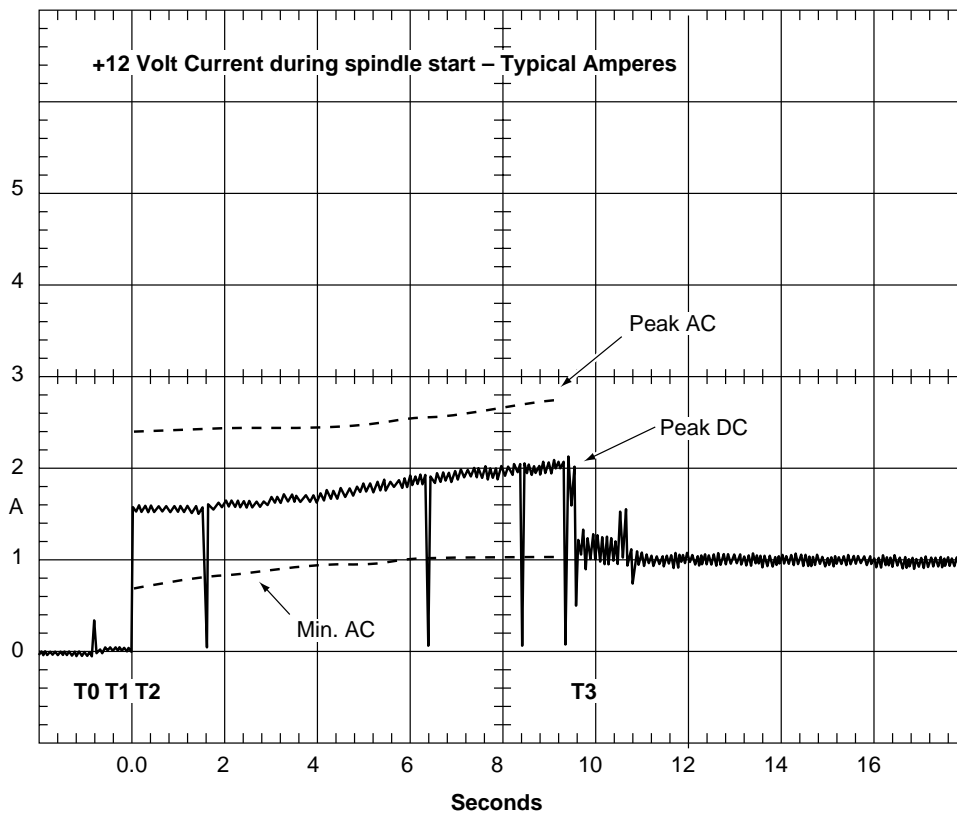

Figure 3. Typical Cheetah 18 family drive +12 V current profile
- [3] See +12 V current profile in Figure 3.
Figure 3 identifies the drive +12 V current profile. The current during the various times is as shown: